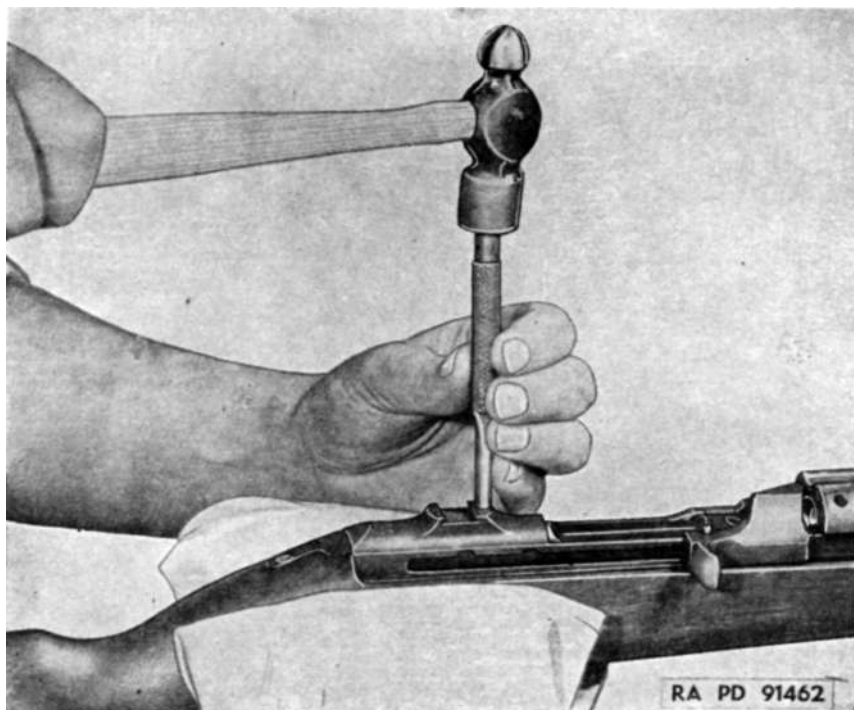

Figure 41. Peening receiver to reduce oversize dovetail slot.
v. Sometimes a dovetail slot in the receiver may be too big to receive any sights available. In such cases, where less than 18 pounds pressure is required indent the area in front of the dovetail slot. This can best be done by using a large steel drift, placing the drift in the location shown in figure 41, and rapping the drift with a hammer. Undertake this operation with extreme caution. A blow only hard enough to cause a flow of metal into the dovetail slot is necessary.